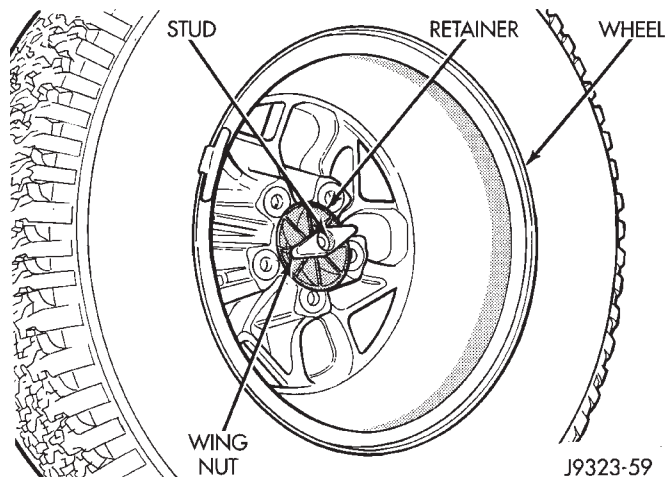

Fig. 14 Spare Tire Mounting
- (11) If necessary, remove spare tire (Fig. 14) and tire stand-offs from left quarter trim panel (Fig. 15).
- (12) Remove rear quarter trim panel.